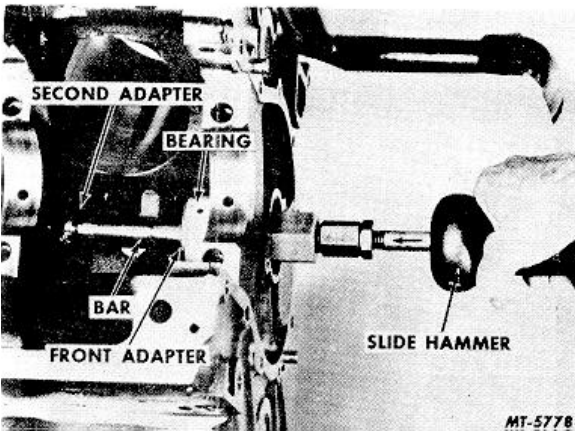

Fig. 99 Removing Front Camshaft Bearing
6. Remove "C" washer and use second adapter as a pilot. Remove front bearing by driving bearing into case (Figure 99).